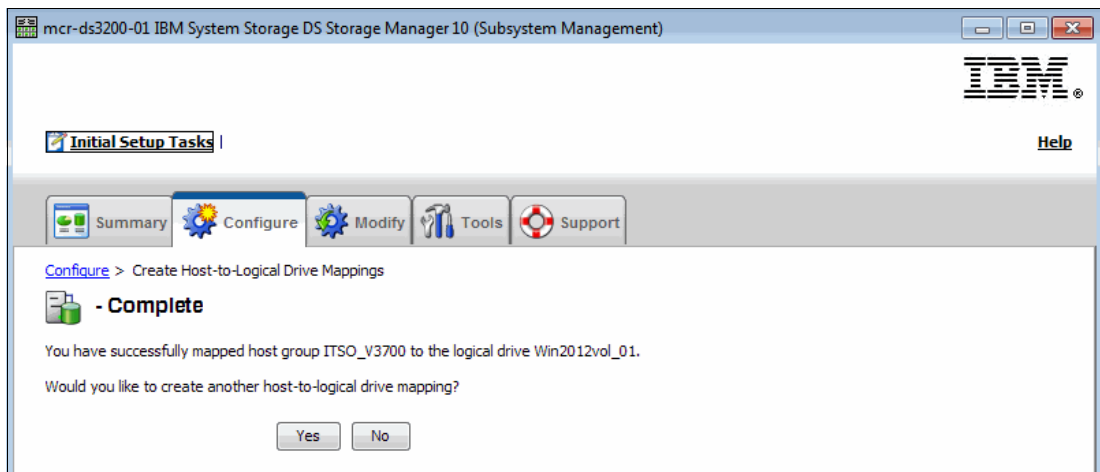

Figure 6-41 Creating further host-volume mappings: IBM DS3200
7. Click **OK**, and you are then prompted to create another mapping, as shown in Figure 6-41.